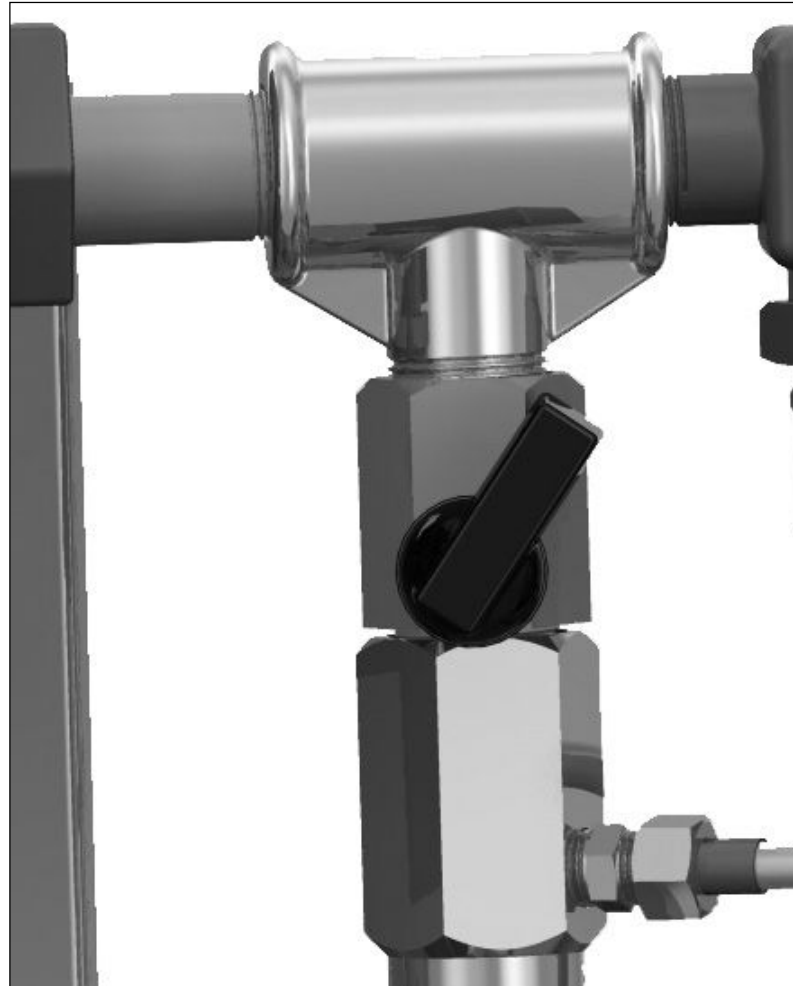

Fig. 7
3. Open the ball valve, until suction can be registered at the vacuum cup. Opening the ball valve half-way, as shown in fig. 7 below, is usually enough to generate the vacuum.